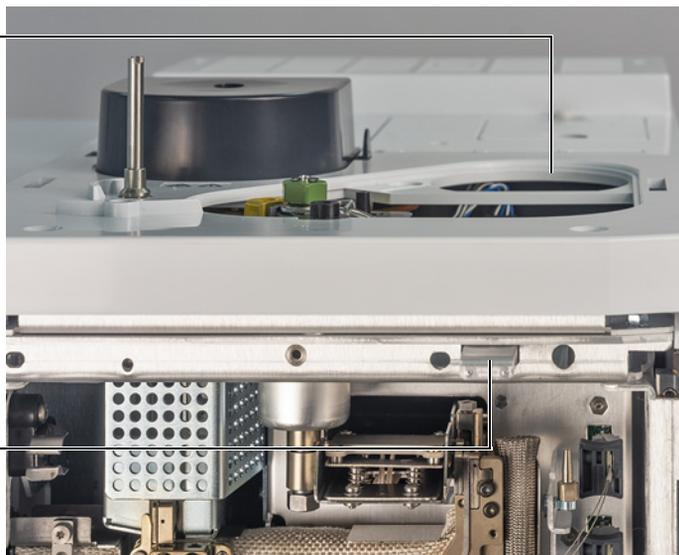

Figure 11. GC inlet cover and compression bolt access plate
- 6 Remove the inlet cover. (See **Figure 11**.)